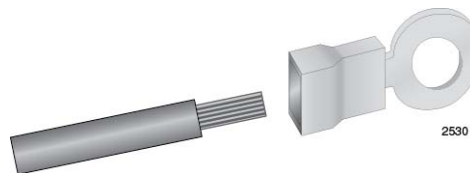

Figure 100. Attaching the Stranded Grounding Wire to the Grounding Terminal
2. Insert the grounding wire into the grounding terminal provided with the power supply and use a crimping tool to secure it to the grounding terminal. See Figure 100.